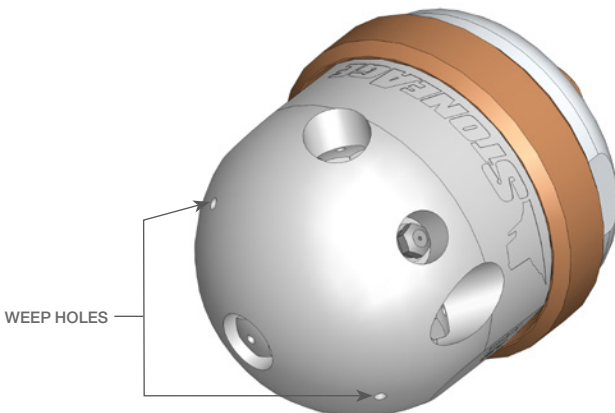

Figure 12
- A significant increase in rotation speed means that the speed control mechanism in the tool has lost functionality. This can be a result of viscous fluid loss or fluid contamination. Operation of the tool in this state can cause damage to other components and accelerated wear of the high pressure seal. If this occurs, the first step is to flush the tool with new viscous fluid as shown in Figure 12.